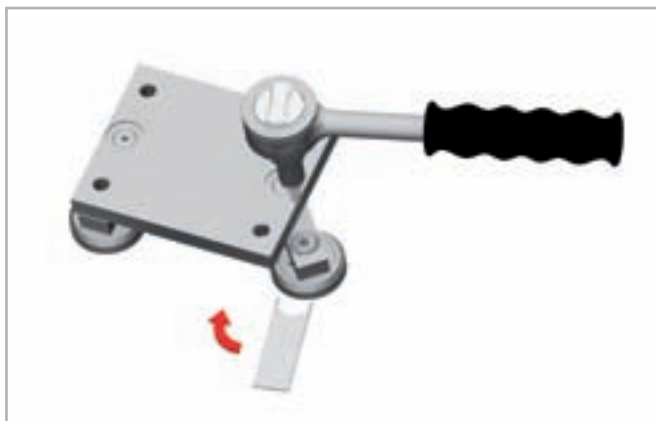

Fig. 11
- The special flat key provided is inserted from the side onto the hexagonal of the pin to be set (see fig. 11).